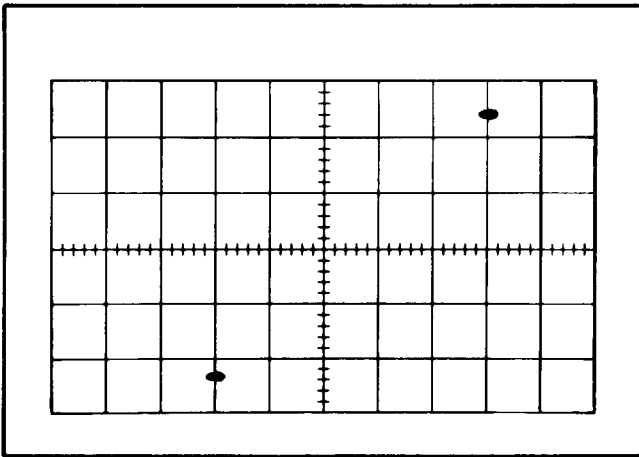

Fig. 5-5. Typical crt display showing correct external horizontal gain.
- e. Check—Crt display 5 divisions horizontally (see Fig. 5-5), ± 0.25 divisions ($\pm 5\%$).